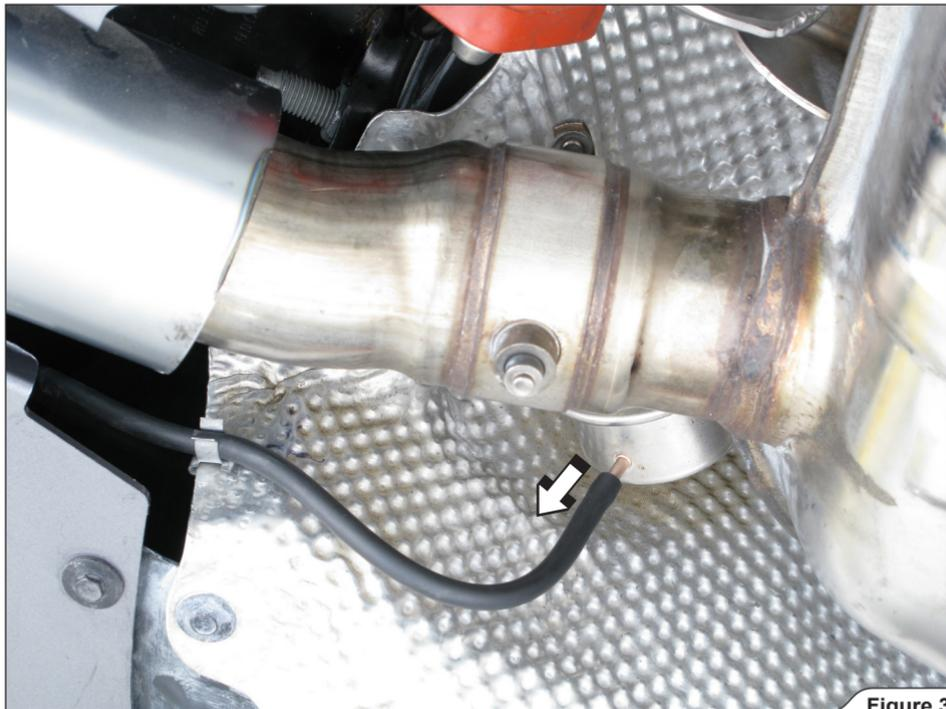

Figure 3
2. For Slip-On and Evolution: pull the vacuum tube of the exhaust valve cylinder (Figure 3).